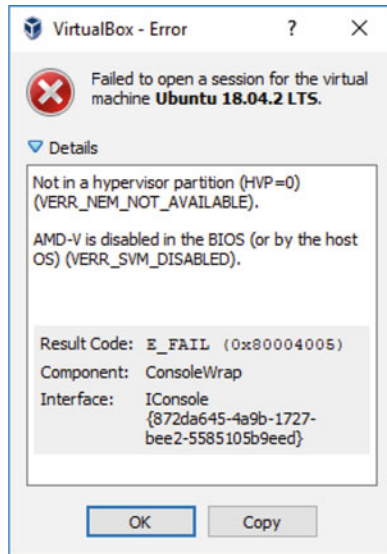

Fig. 11.8: Bad Bios setting for virtualization
- Step 7: Install desired Linux software in the Ubuntu virtual machine (VM).
VirtualBox's 64-bit Virtual Machine (VM) guests will not install unless hardware virtualization has been enabled in your PC's BIOS, so check and make sure your PC/Laptop's BIOS has virtualization enabled before you proceed with the VirtualBox installation. If you do not, and virtualization has not been enabled, you will probably get the error shown in Fig. 11.8.